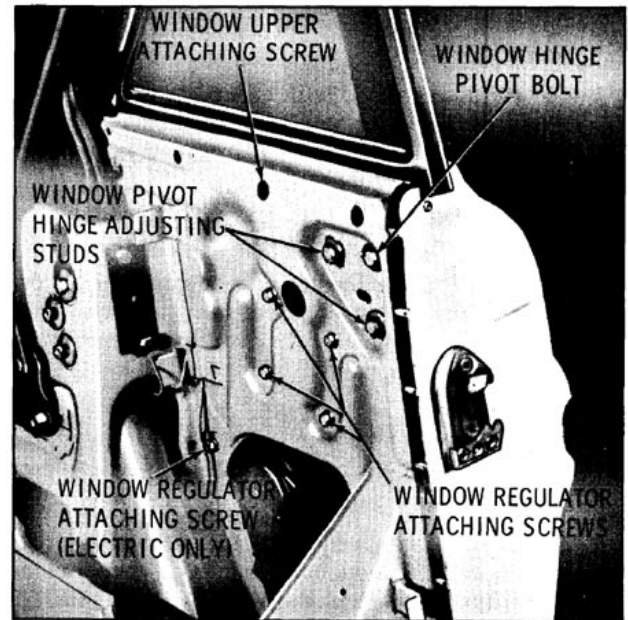

Fig. 16-81 Rear Quarter Hardware (67 Styles)
3. Remove window pivot bolt. (Fig. 16-81) Disengage window male hinge from female hinge plate; then raise window to disconnect window lower sash channel cam from roller on window regulator lift arm and remove window.
1. To adjust the limit of the rear quarter window up travel, loosen the window guide upper attaching screws. (Fig. 16-81) Adjust upper stop to desired position and tighten guide attaching screws.
- a. Up or down or fore or aft window adjustment: Loosen pivot bolt and both adjusting stud nuts. (Fig. 16-81) Position window as required, then tighten pivot bolt and stud nuts.
- b. In or out adjustment of top of window: Loosen lower adjusting stud nuts and slightly loosen rear stud nut. Adjust lower stud in or out, as required; then tighten both stud nuts. (Fig. 16-81)
- c. In or out adjustment of rear of window: Loosen pivot hinge rear adjusting stud nut and lower adjusting stud nut (slightly). Loosen window guide upper attaching nuts and center stud nut. (Fig. 16-81) Adjust rear adjusting stud in or out as required, then tighten both stud nuts.
5. Remove window regulator attaching screws. (Fig. 16-81) Disengage roller on regulator from sash channel cam and remove regulator through large access hole.